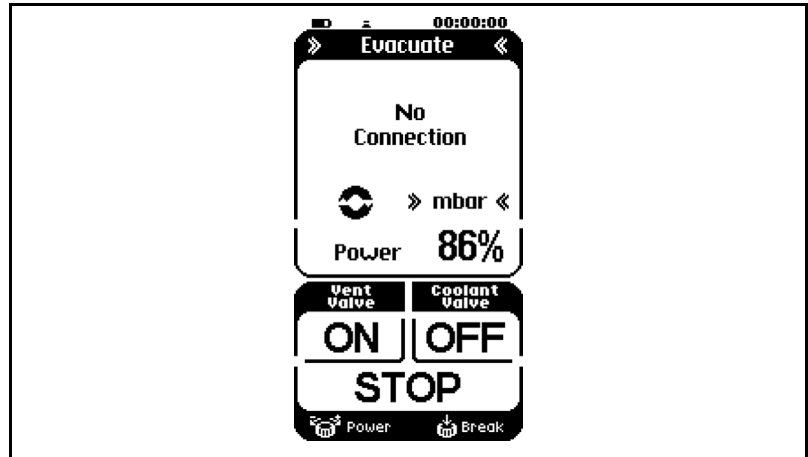

Fig. 13: Display „No connection“
- The message "No connection" will blink in the hand terminal's display (see figure 13);